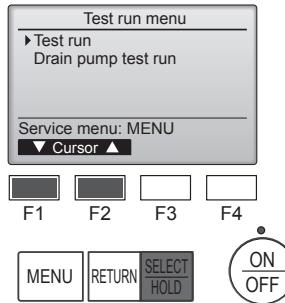

Fig. 8-2
- Select "Test run" from the Test run menu, and press the [SELECT/HOLD] button. (Fig. 8-2)